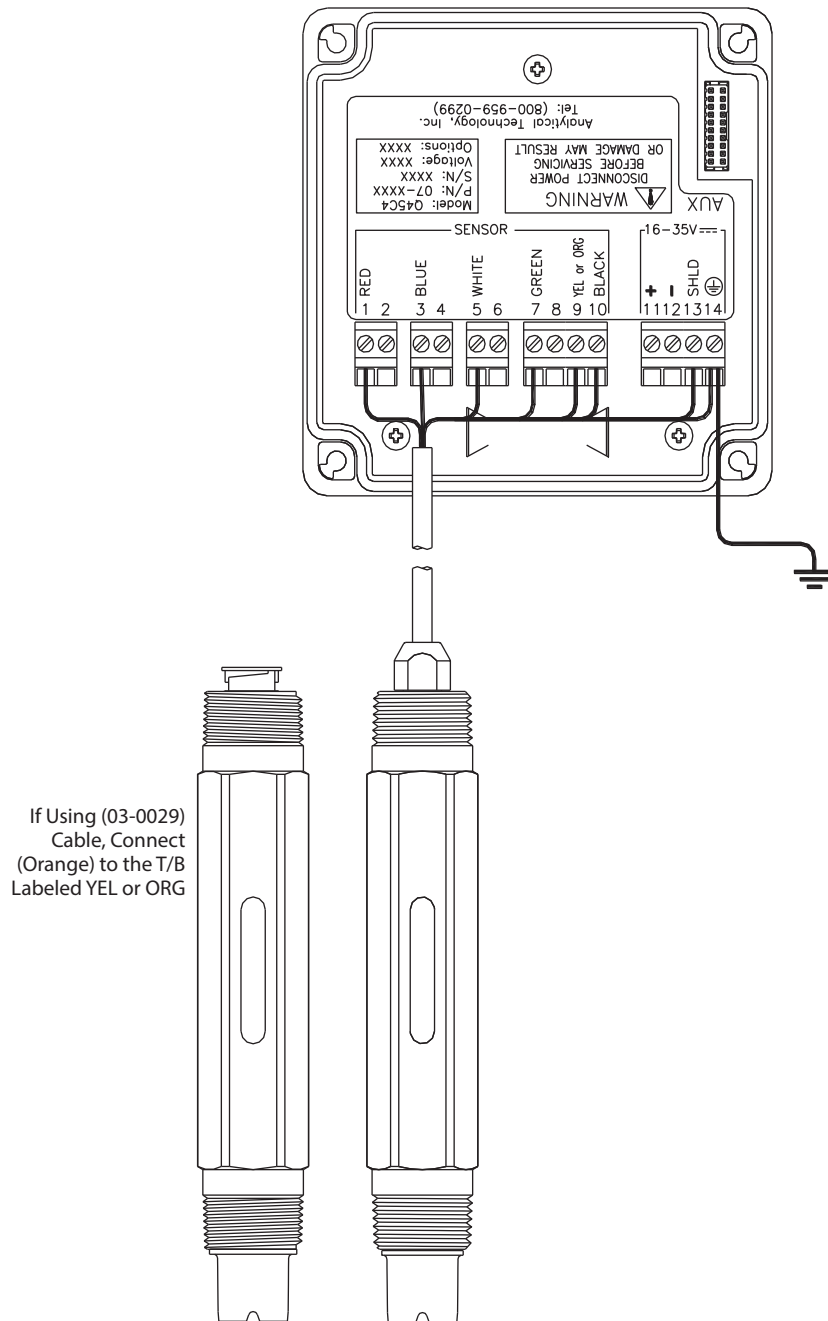

Figure 13: Sensor connection
1. Use wiring practices that conform to all national, state and local electrical codes. For proper safety as well as stable measuring performance, it is important that the earth ground connection be made to a solid ground point. See Figure 13 on page 21.
Sensor connections are made in accordance with Figure 13 on page 21. The sensor cable can be routed into the enclosure through one of the cord grips supplied with the unit. Routing sensor wiring through conduit is only recommended if a junction box is to be used. Some loose cable is needed near the installation point so that the sensor can be inserted and removed easily depending on the installation type.